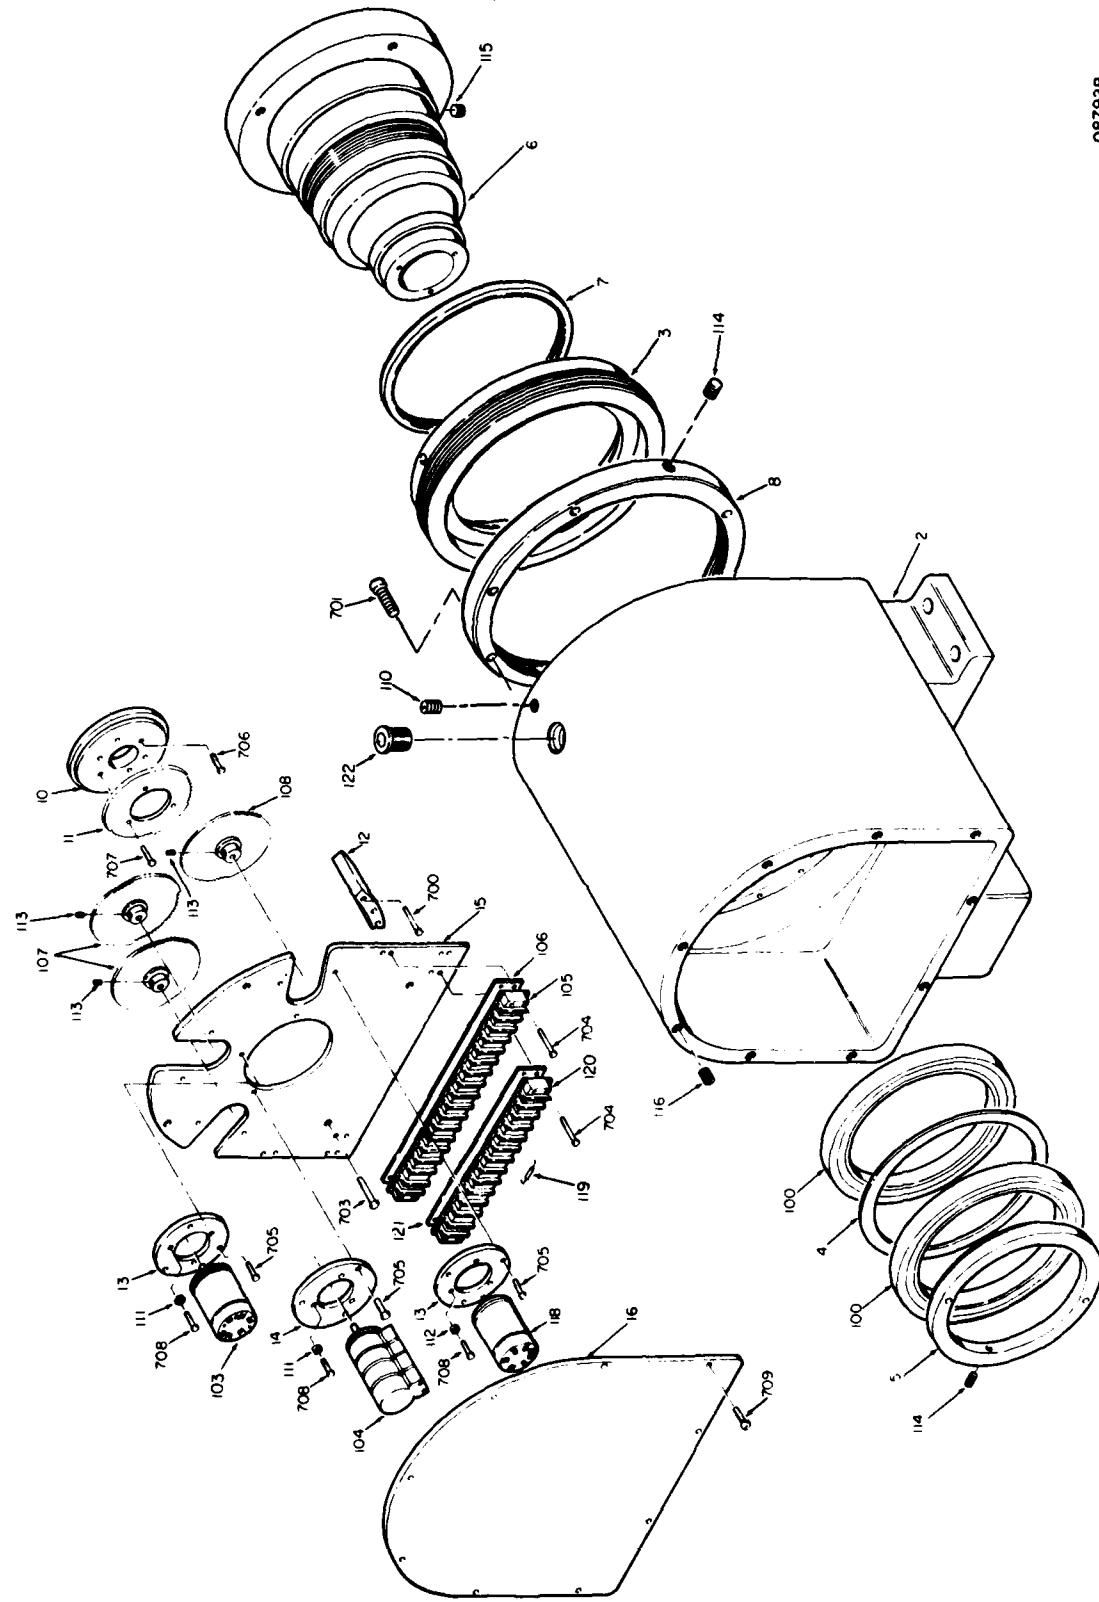
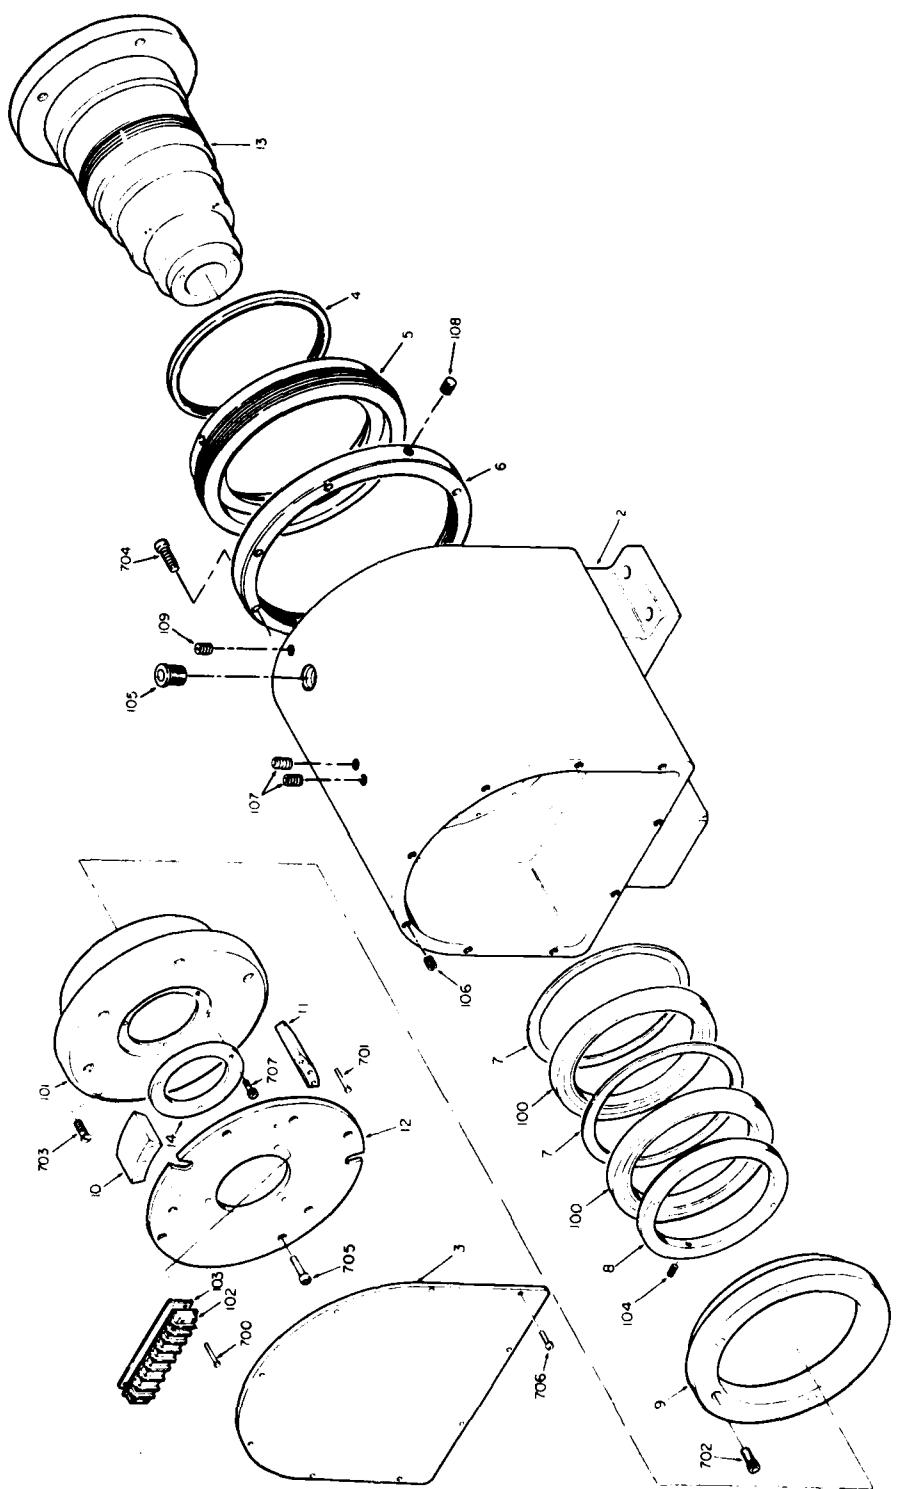

Figure 5.7. Drive Side (Shock Side) Pillow Block
Figure 5.8. Readout Side (Caging Side) Pillow Block
- a. Remove 9 screws (709, Figure 5.7), cover (16) and gasket from pillow block.
- c. Carefully mark orientation of component hub assemblies (107 and 108) with respect to drive gear (11).
- d. Loosen six screws (705) and two circular mounting plates (13).
- e. Remove four screws (703) and component mounting plate (15).
- m. Remove shaft (6, Figure 5.7) from the pillow block.
- n. Remove seal retainer (3) and seal (7).
- o. Remove six screws (701) and retainer (8).
p. Loosen setscrew (114) and using a spanner wrench, turn counterclockwise to remove bearing retainer (5), bearing (100), spacer (4), and bearing (100).
- a. Remove nine screws (706, Figure 5.8), cover (3) and gasket.
- c. Disconnect motor wires connected to TB7 (102).
- d. Remove four screws (705) and mounting plate (12).
- e. Remove four screws (707) and motor retainer (14).
- f. Remove brush blocks and brushes (1 and 2, Figure 5.6) from motor (101, Figure 5.8).
- h. Remove 6 screws (703, Figure 5.8) that fasten motor to pillow block.
- k. Using Figure 5.8 as a reference, remove searchlight, gimbal and shaft from positioner as in steps 5.16.1.f through 5.16.1.n. Do not remove caging disk (7, Figure 5.5) from shaft except for replacement.
- l. Remove four screws (704), seal retainer (5) and seal (4).
- a. Install bearing (100, Figure 5.7), spacer (4), bearing (100) and bearing retainer (5). Using a spanner wrench, turn clockwise until bearing retainer is tight. Tighten setscrew (114).
- b. Install adapter (8) and six screws (701).
- c. Install seal (7) and seal retainer (3).
- d. Install shaft (6), lining up marks made in step 5.16.1.h. If both pillow blocks are being assembled, make sure both shafts are in place before installing gimbal.
- i. Install component mounting plate (15, Figure 5.7) and four screws (703).
- j. Line up reference marks made on hub assemblies (107 and 108) in step 5.16.1.c. Decrease backlash in each component separately at the high spots. Tighten circular mounting plates (13) when the gears are lined up.
- k. Install cover (16), gasket and nine screws (709).
- a. Install adapter (6, Figure 5.8), six screws (704) and setscrew (108).
- b. Install seal (4), seal retainer (5) and four screws (703).
- c. Install spacer (7), bearing (100), spacer (7), bearing (100) and bearing retainer (8). Using a spanner wrench, turn clockwise until retainer is tight. Tighten setscrew (104).
- d. Install bearing retainer (9) and four screws (702).
- e. Using Figure 5.8 as a reference, install searchlight, gimbal and shaft in positioner as in steps 5.17.1.c through 5.17.1.h.
- f. Install motor (101) on shaft (13). Install six screws (703) that fasten motor to pillow block. If keeper was installed, remove it at this time.
- i. Install motor retainer (14, Figure 5.8) and four screws (707).